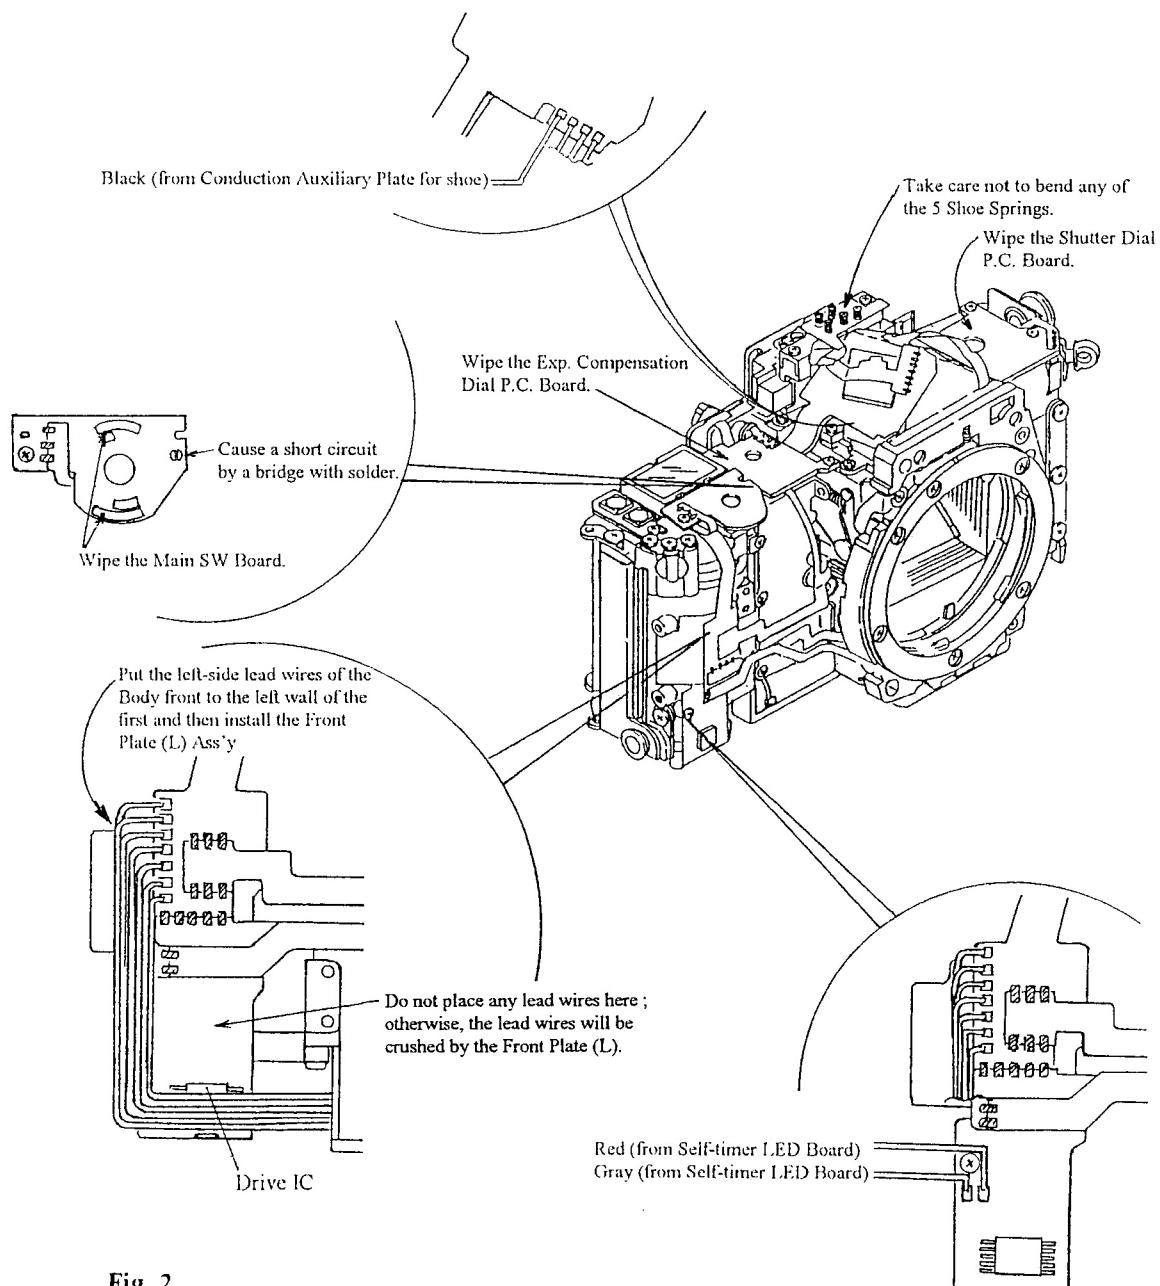

Fig. 2
- 2) Unsolder the Black lead wire (from the Conduction Auxiliary Plate for the shoe) on the Main FPC. (See Fig. 2).
- When the Top Cover Ass'y has been removed, take care not to bend or deform the Shoe Spring on the Main FPC Ass'y. (See Fig. 2)
- 1) Peel off the Front Plate Rubber (R) (1AW26700).
- 2) Peel off the Front Plate Rubber (L) (1AW26600) and remove the Self-timer Window (1AH15200).
- The Front Plate Rubber (R) and Front Plate Rubber (L) are fixed to the Body with the Front Plate Rubber Tape (double-stick tape).
- Once the Front Plate Rubber (R) and Front Plate Rubber (L) have been peeled off, the adhesive strength of the Front Plate Rubber Tape weakens. Be sure to replace the Front Plate Rubber Tape with new one.
- 4) Remove the Front Plate (L) Setscrews (69113576)  $\times$  4 and take off the Front Plate (L) (1AWB5300), and unsolder the Red and Gray lead wires (from Self-timer LED Board) on the Main FPC. (See Fig. 2)
(See Fig. 2)
- a) To operate the camera with the Top Cover Ass'y removed, cause a short circuit by a bridge with solder on the pattern of the Main SW Board as shown in Fig. 2.
- a) As shown in Fig. 2, put the left-side lead wires of the Body front to the left and dress them over the Drive IC first and then install the Front Plate (L) Ass'y (1AWB5300).